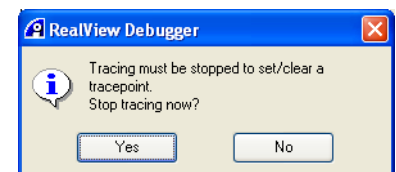

Figure 10-67 Prompt to stop tracing when setting a tracepoint
- f. Click **OK**. The New Tracepoint dialog box closes and the Prompt dialog box, is displayed. Figure 10-67 shows an example. To set a tracepoint on a running target, tracing must be disabled.